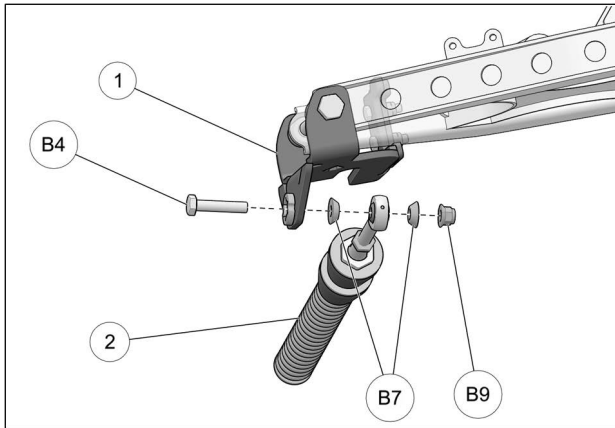

Fig. 16
17. Attach stabilizing rod (2) to anchor bracket (1), using bolt (B4), Taper sleeves (B7), and nut (B9). Torque to 70 Nm [52 lb•ft]. See Fig. 16